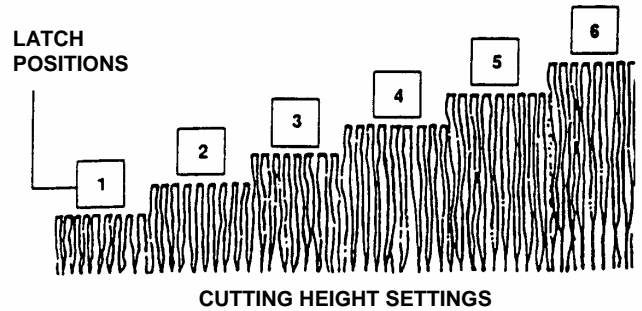

FIGURE 2.10
2. Set all wheels at the same cutting height. The highest cutting position is Notch 6. The lowest cutting position is Notch 1. See Figure 2.10.